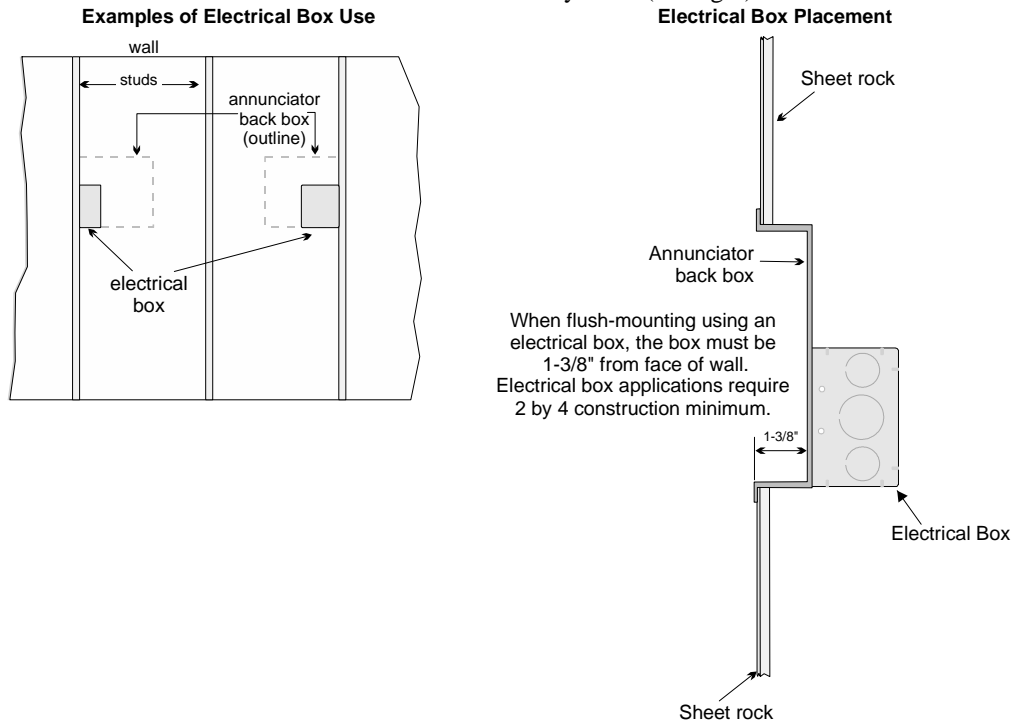

Figure 4-12 Placement of Electrical Box for Flush Mounting
1. Cut a hole in the sheet rock to the following dimensions: 8-1/4" W x 6-5/8" H. If an electrical box is used, the box must be 1-3/8" back from face of wall to accommodate the annunciator (see Figure 4-12).